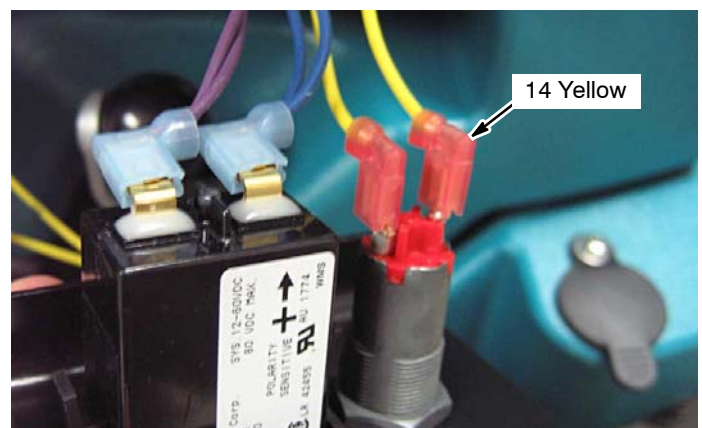

Fig. 29
7. Disconnect wire 14/yellow from key switch (Figure 29).